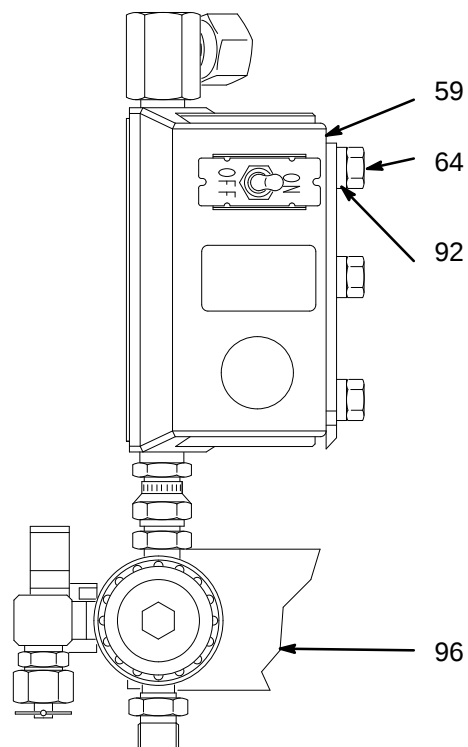

Fig. 3
11. Reassemble in the reverse order; attach ground wire (C), power lead (B), and the black and white connectors. Attach the engine control board (301) using the four mounting screws and washers (302, 303, 304).
12. Use two wrenches and tighten the filter and hose fittings (A). See preceding caution.
13. Slide bracket (96) to contact cart squarely. Tighten both filter mounting screws (30). Install and tighten screw (100).
14. If replacing the complete pressure control, follow steps 1 through 3 on page 2 and remove three mounting screws (64) and lock washers (92). Remove pressure control (59). See Fig. 3.
15. Reassemble screws (64) and lock washers (92), then follow steps 12 and 13 on page 2.